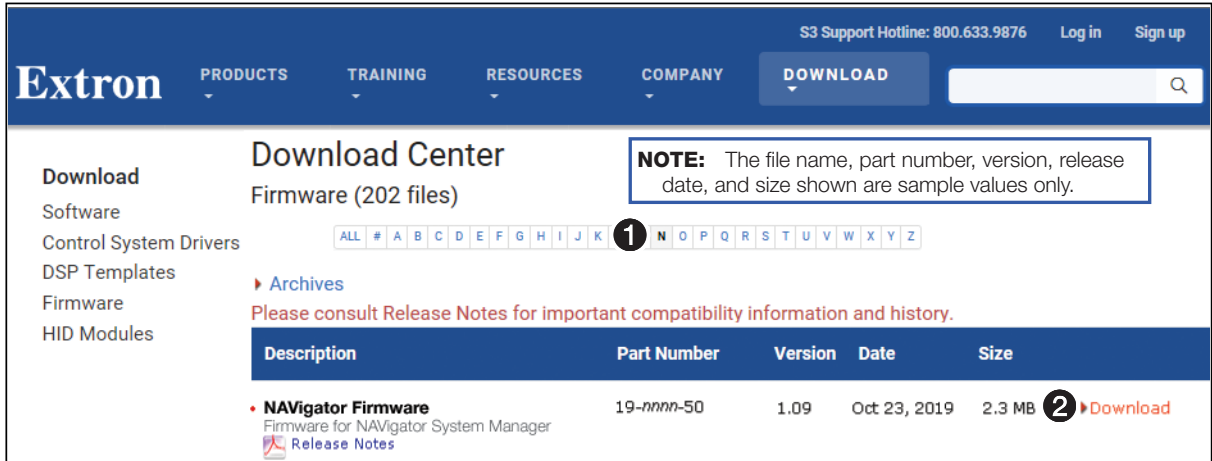

Figure 119. Downloading from the Main Download Page
2. Click the **Firmware** or **Software** link (❷). The main download page opens (see figure 119 on page 124).
3. Click the desired filtering letter (see figure 119, **1**) to jump to the nearest page of downloads.